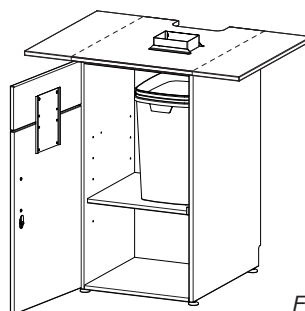

Fig. 20
3.10.3 Base cabinet with coffee residue outlet (fig. 20)